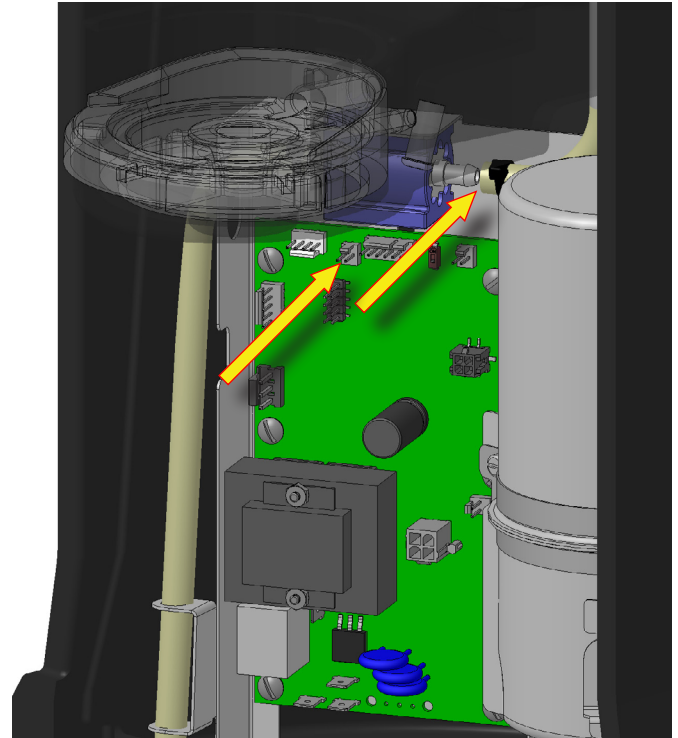

FIG. 5-3
5. Disconnect silicon hose from vent valve. Disconnect 2 pin white/violet harness from Control Board J-11. FIG 5-3